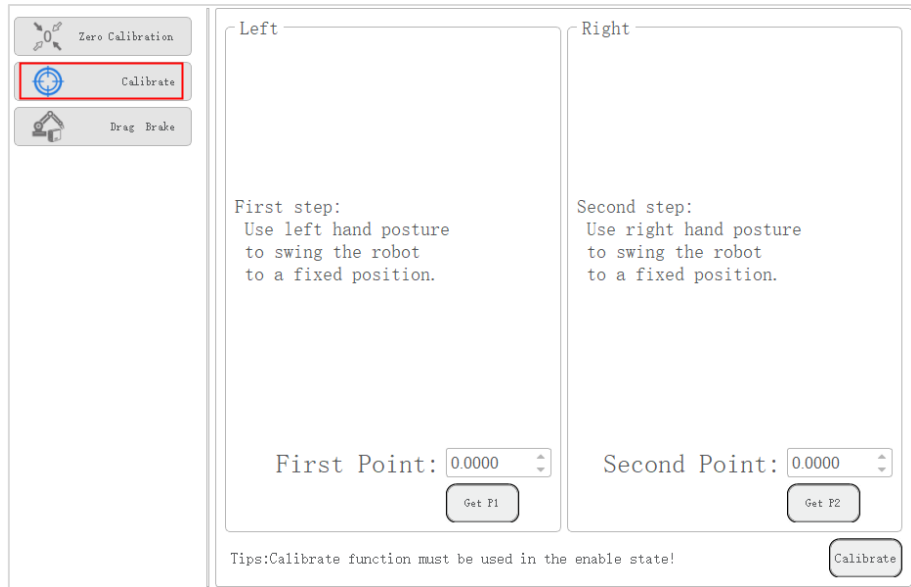

Figure 3.44 Calibrate
- Step 1** Click > **Parameter** > **RobotSetting** > **Calibrate** to enter **Calibrate** interface, as shown in Figure 3.44.